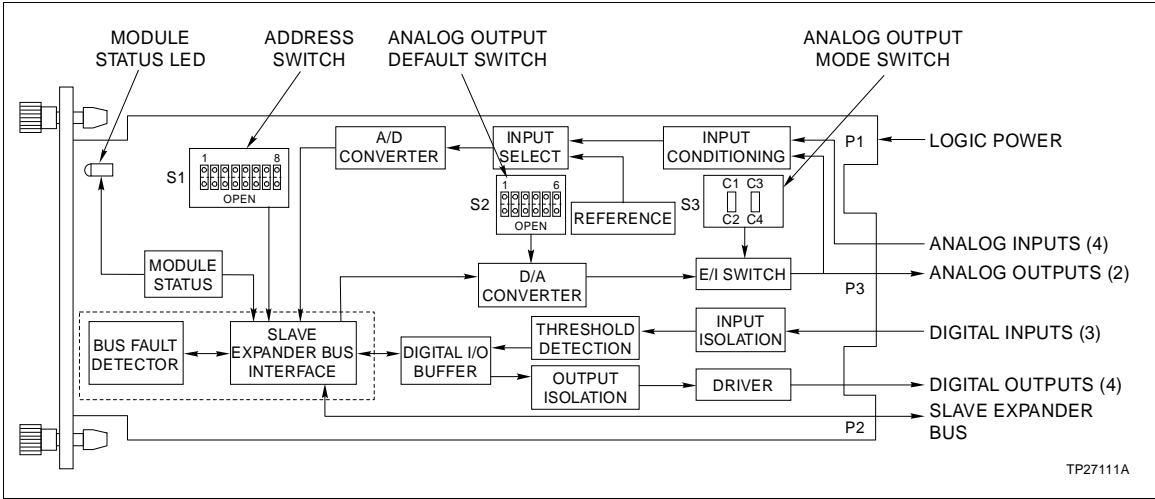

Figure 2-1. Control I/O Slave Module Block Diagram
The MFP communicates with its slave modules on a 12-line slave expander bus as shown in Figure 1-1. It references the address set by the slave address dipswitch (S1). Figure 2-1 is a block diagram of the CIS.
Function Code (FC) 79 in the MFP configuration accesses the CIS on the slave expander bus. It also allows the MFP to automatically read input data or status data from the slave module, and write output data to it. This data is output by buffer circuits to the slave expander bus interface (see Figure 2-1). The slave address in FC 79 must be the same as the address set on the slave address dipswitch (S1).
Logic power (+5 VDC and ± 15 VDC) drives the CIS circuits. It connects through the top 12-pin card edge connector (P1) shown in Figure 2-1. P3 supplies +24 VDC to operate the analog output circuits.